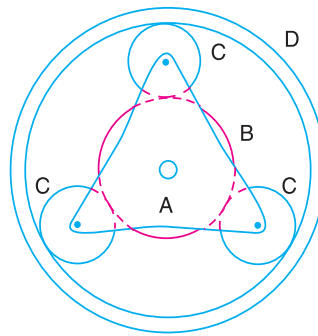

Fig. 13.41
12. In an epicyclic gear train of the 'sun and planet type' as shown in Fig. 13.41, the pitch circle diameter of the internally toothed ring  $D$  is to be 216 mm and the module 4 mm. When the ring  $D$  is stationary, the spider  $A$ , which carries three planet wheels  $C$  of equal size, is to make one revolution in the same sense as the sun wheel  $B$  for every five revolutions of the driving spindle carrying the sunwheel  $B$ . Determine suitable number of teeth for all the wheels and the exact diameter of pitch circle of the ring.